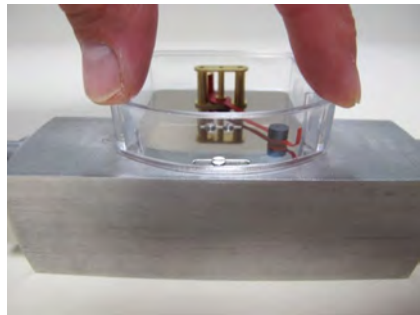

Fig. 61
- 13.** ▶ Fit the plastic housing on the display base plate and press down until it snaps into place. (Fig. 61)